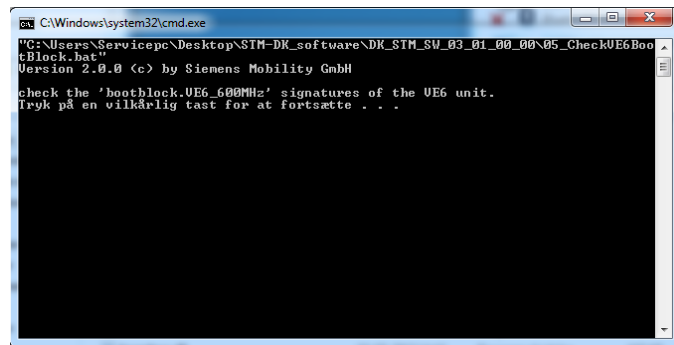
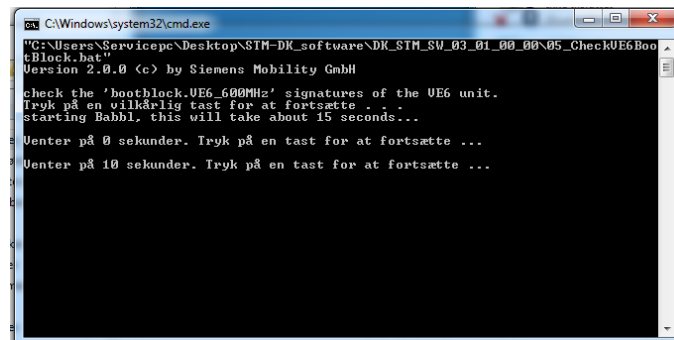

Figure 6 05\_CheckVE6BootBlock started
Figure 7 05\_CheckVE6BootBlock press any key
- See Figure 6 and Figure 7 for examples.